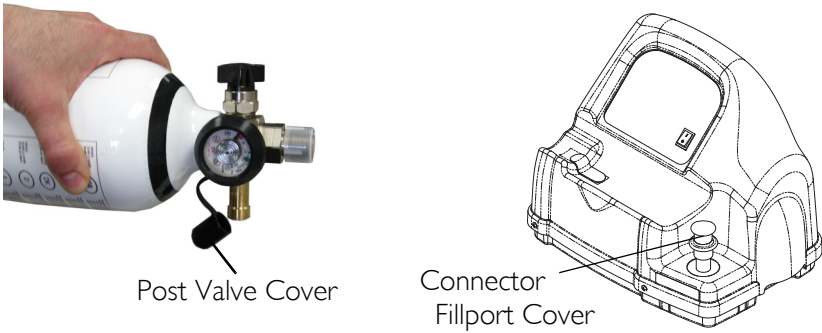

FIGURE 4.2 Fillport Covers
4. Remove the post valve cover (located on the cylinder) and the connector fillport covers (located on the compressor) (FIGURE 4.2).